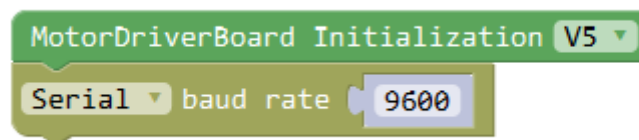

Figure 2-2-1
- 1) First, drag the "motordriverboard initialization" of the building block area to the program architecture area with the mouse. It should be noted that there are three versions of motordriverboard: V3, V4 and V5. We need to select the corresponding version in the "motordriverboard initialization" figure block according to the version used, and then drag "serial baud rate 9600" to the bottom of the "motordriverboard initialization" building block, As shown in figure 2-2-1,